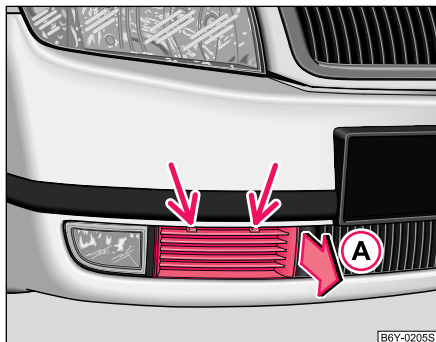

Fig. 148 Front bumper: Protective grille
- Stick a screwdriver through the bore hole of the protective grille (near the licence plate) ⇒ **fig. 148** and press downwards thereby pressing off the spring clip on the protective grille. Grab the edge of the protective grille by the hand at the same time (arrow **A**) and loosen it.